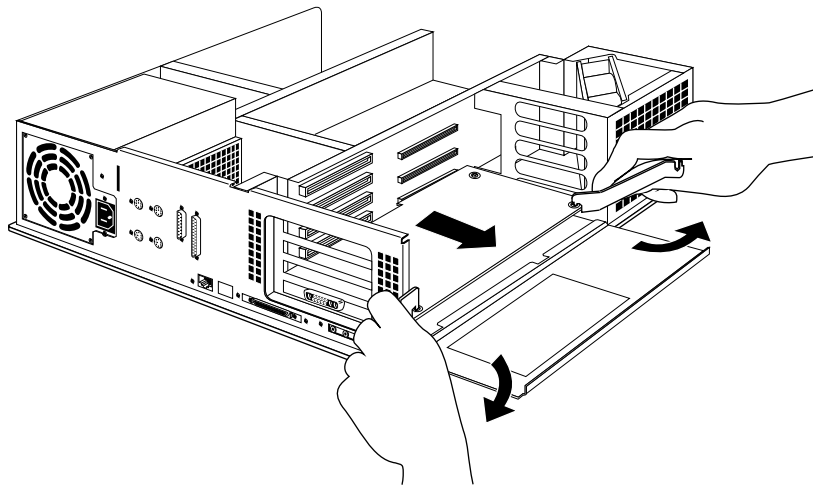

Figure 8-35 Removing the XL Graphics Board
- Hook the ends of the wrenches in the small holes on each side of the front of the board, as shown in Figure 8-35.